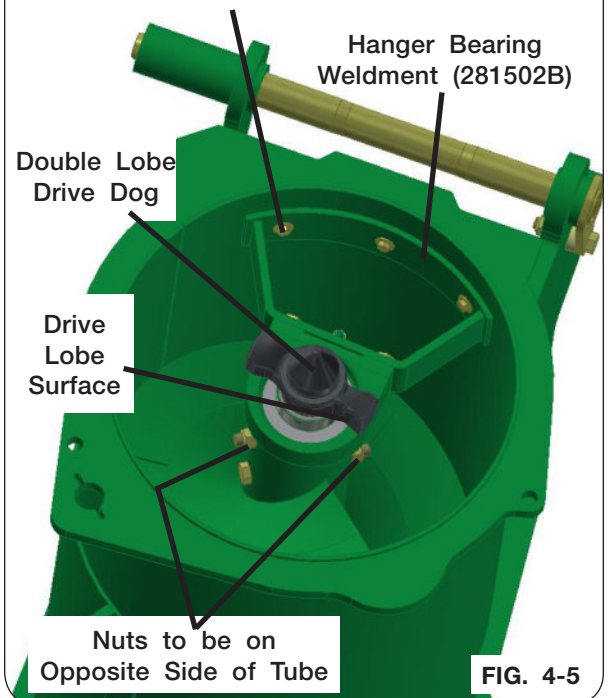

FIG. 4-5
1. Remove the three 3/8"-16UNC x 1 1/2" capscrews (9390-057), six 3/8" flat washers (9405-076), three 3/8" lock washers (9404-021) and 3/8"-16UNC hex nuts (9394-006) which secures the hanger bearing weldment (281502B) to the auger tube (FIG. 4-5).